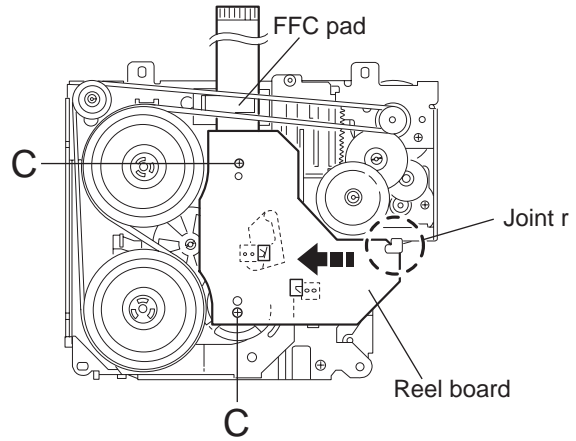

Fig.21
**(See Fig.21 and 22)**
- (1) Remove the two screws C attaching the reel board.
- (2) Move the reel board in the direction of the arrow to release the joint r.
- (3) Unsolder the wires if necessary.